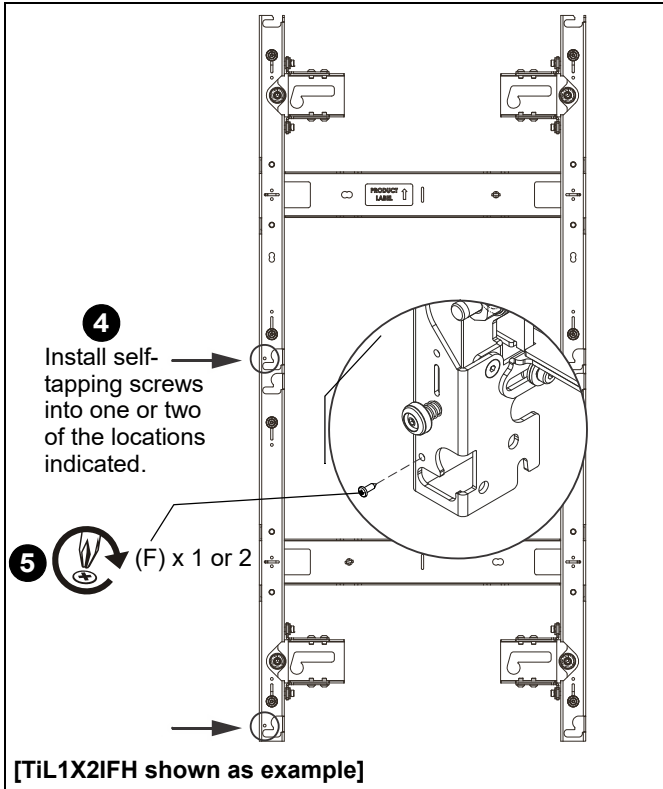

Figure 16
4. Install one or two #10 x 1/2" Phillips self-tapping screws (F) into the edge of the mounting button slots on the far left mount. **One or two is typically all that is needed per mount.** (See Figure 16)